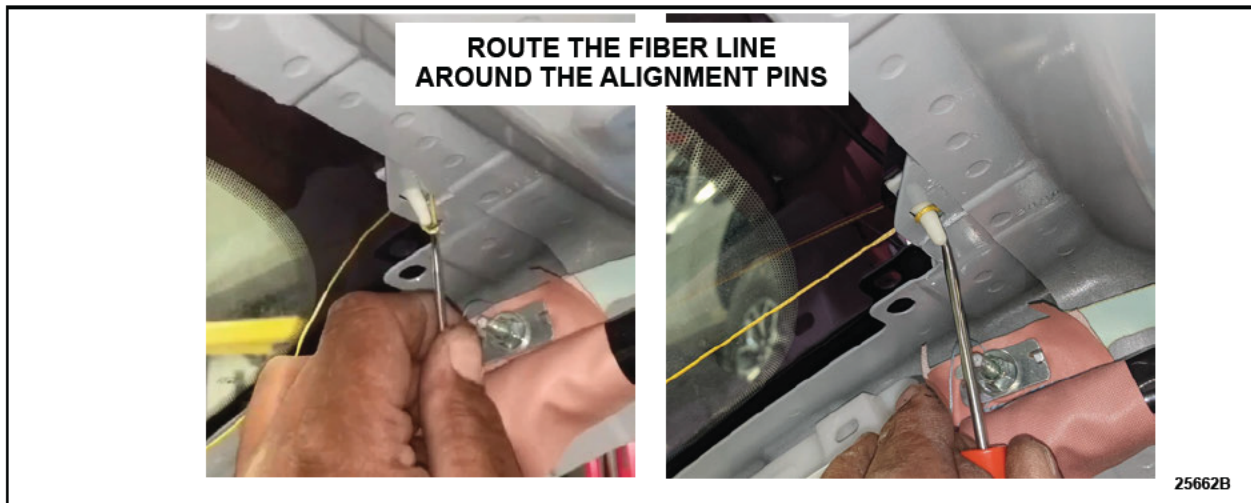

FIGURE 2
2. Remove the windshield using a fiber line cut out tool. See Figure 2.